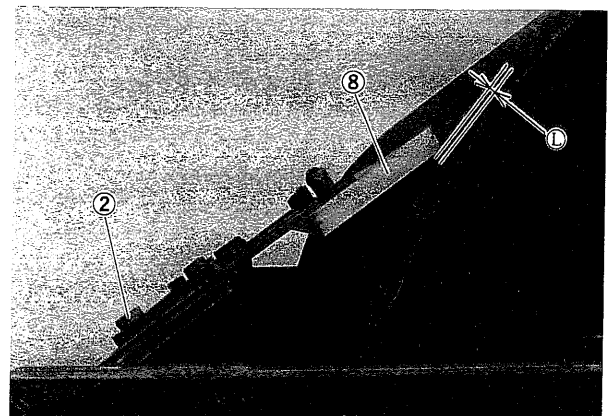

Fig. 162
Loosen bolts (2) and move scraper blade (8) to provide proper clearance (L) between scraper blade and roll. (Fig. 162)